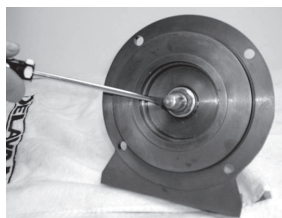

Fig. 5
5. Work the outer seal half off the shaft carefully with a screwdriver. Fig. 5.